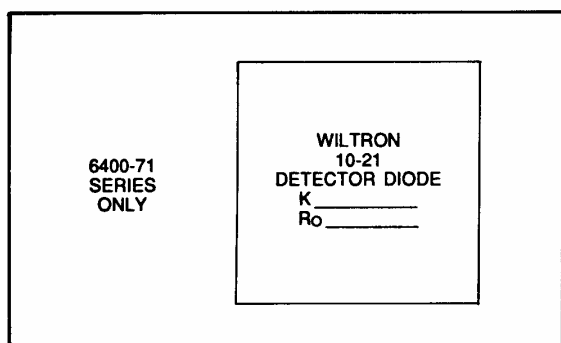

Figure 8-5. Label from replacement module container.
- f. Obtain the K value from the label (Figure 8-5) on the replacement module's plastic container.
- k. Note the R_O value on the label from the replacement module container (Figure 8-5).